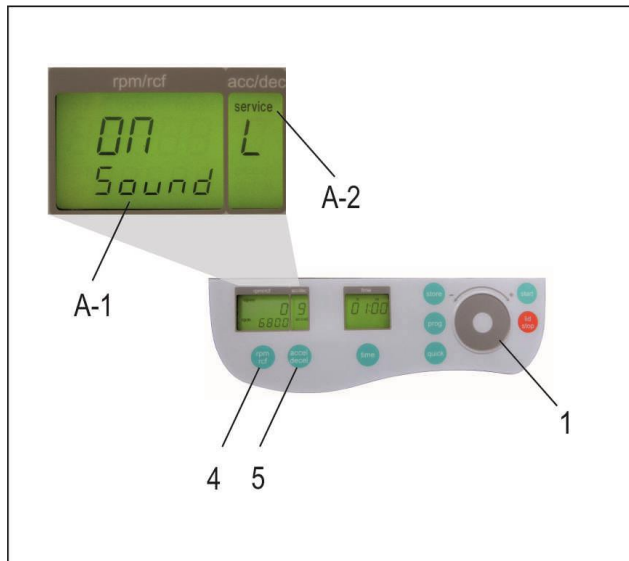

Figure 2
Proceed as illustrated, under point 1.8.2, to enter this program mode, press the key; "accel/decel" (5). In the display, "accel/decel" (A-2) flashes the word, "service". Select the letter, "L" with the control field (1). As a result, appearing in the display "rpm/rcf" (A-1), are the words, "On Sound". By pressing the key, "rpm/rcf" (4), the word "On" flashes, and the sound can be switched off with the control field (1), (see Figure 2).